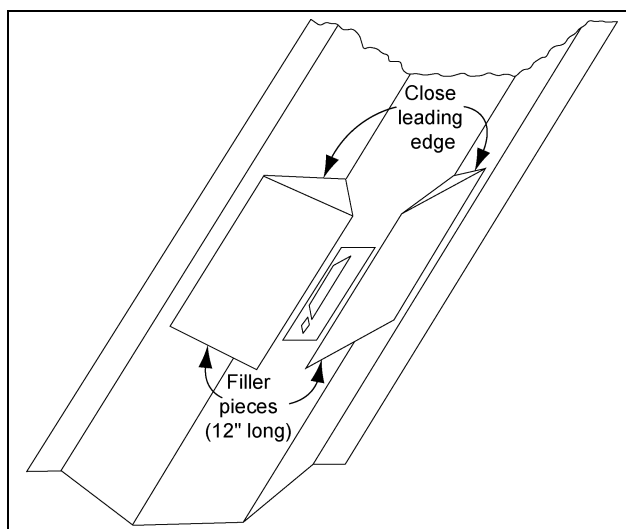
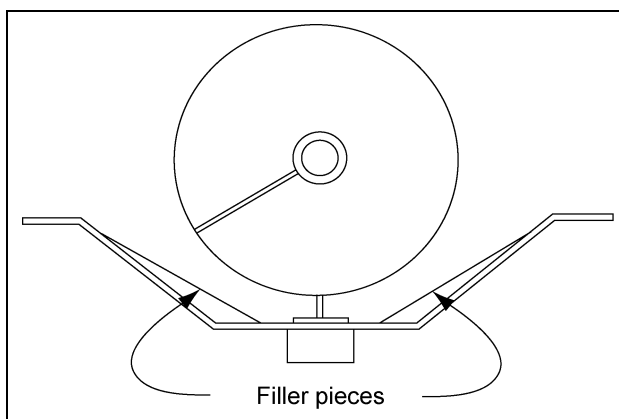

Figure 4G
Figure 4H
5. On the flat bottom pan, make some filler pieces 12" long to keep the grain closer to the sensor flag. (See Figure 4G, Figure 4H and Figure 4I.) Be sure the leading edge is closed so grain cannot get under the pieces. Weld the pieces in place as shown in Figure 4G.